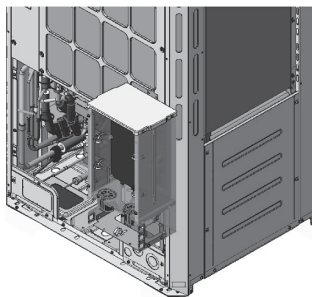

Figure 12
- (14) Make sure that no undue force is applied to the wires from which cable straps were removed in steps (7) through (12). Position the bottom attachment that was removed in step (5) above on the fin guard as shown in Figure 13, and then hook the main control box on the attachment as shown in Figure 12.